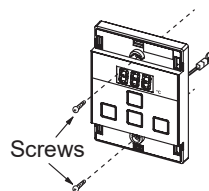

Fig. 3
6. Fix the remote controller to the wall using the appropriate fixings (Fig. 3).